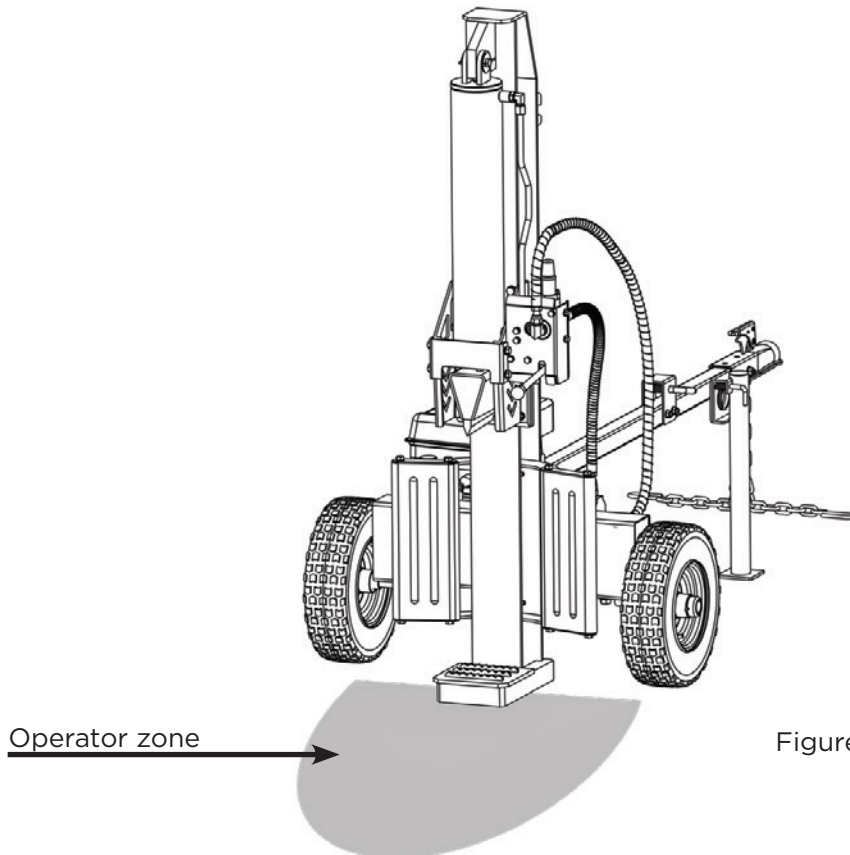

Figure 2
2. b. Vertical Operating Position: Stand in front of the log splitter and stabilize log if needed. (See Fig. 2).